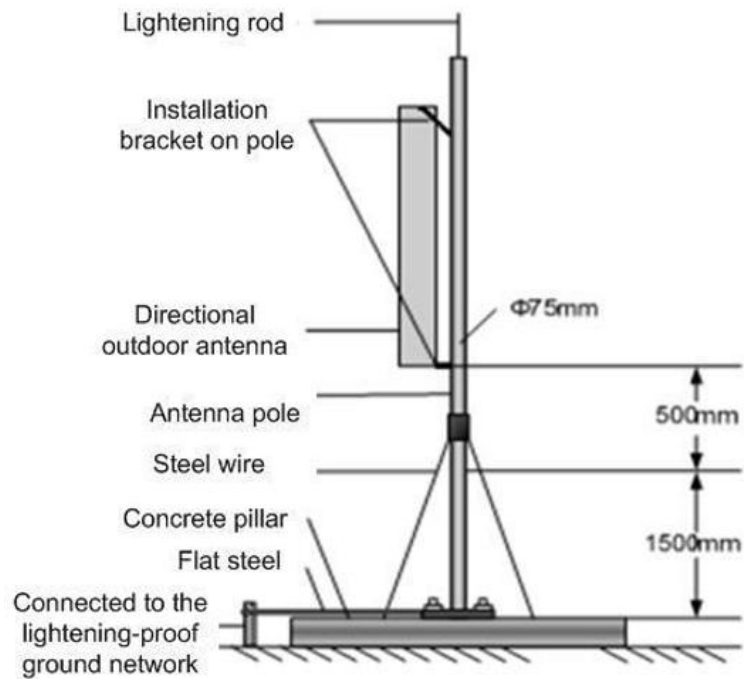

Figure 3-13 Directional Antenna Installation
3. Fix the pole on the ground or concrete column on the roof vertically with expansion screws and fixed with steel wires. Then use the installer to install the directional outdoor antenna on the rod, as shown in Figure 3-13.